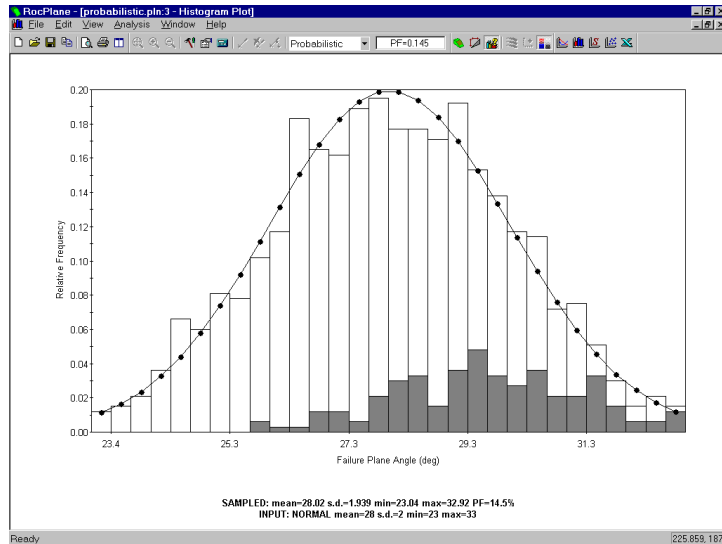

Figure 4-3: Failure Plane Angle – Monte Carlo sampling of normal distribution. Failed Wedge distribution is displayed.
1. Monte Carlo sampling does not sample your input data distributions “exactly” (eg. see Figure 4-3).
As we would expect, the failed wedges correspond to larger Failure Plane Angles, as can be seen in Figure 4-3.
Compare the histogram with Figure 4-3. The Latin Hypercube sampling method results in a much smoother sampling of the Input Data distribution, compared to the Monte Carlo method.